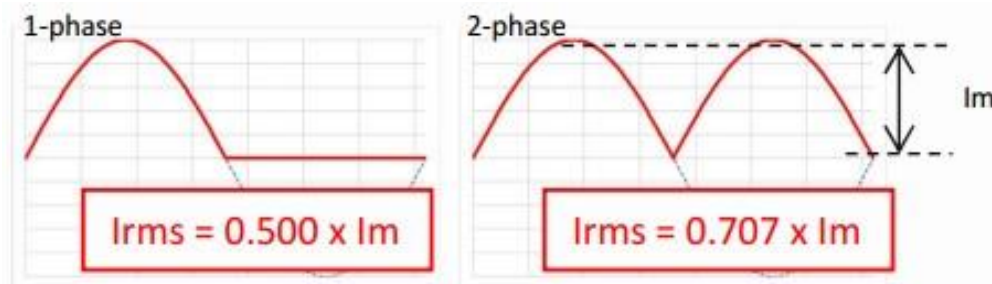

Figure 5: Output waveform for 9.7.4.2, $\alpha=0$
- Function generator: pulsating direct current as shown in Figure 5
- Function generator: pulsating direct current $\alpha=0$ as shown in Figure 5